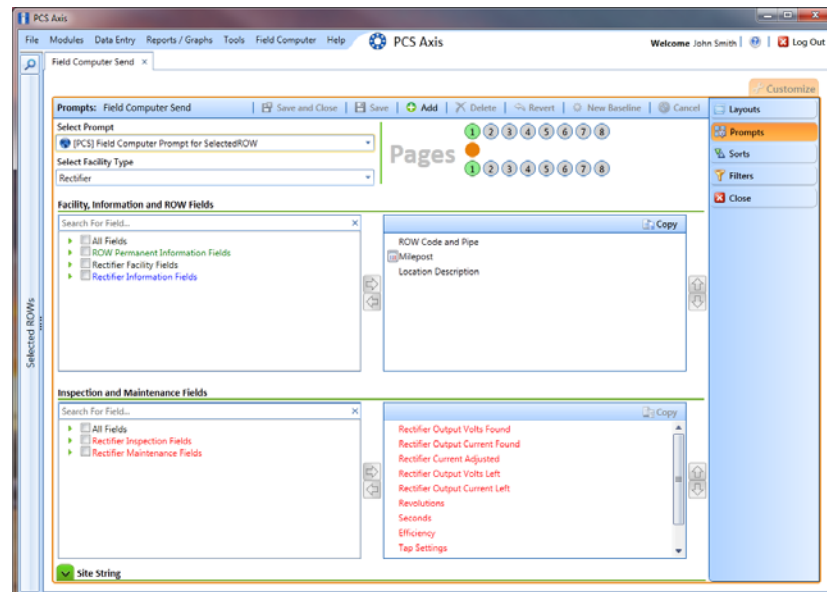

Figure 12-28. Prompts
- 3 Click the **Customize** tab , then the **Prompts** button  to open the *Prompts* page (Figure 12-28).